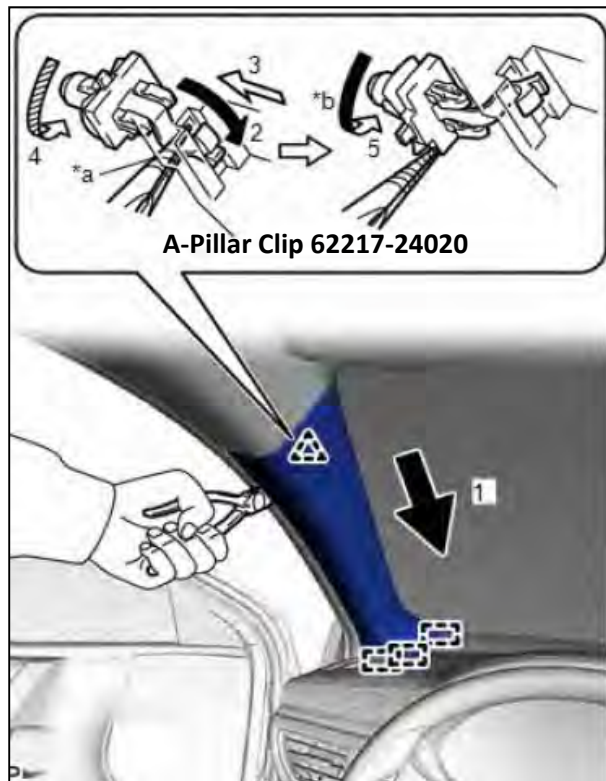

Figure 23
- a. Push the front A-Pillar garnish assembly LH in the direction indicated by the arrow (1) shown in the illustration to engage the 3 guides. Using needle-nose pliers with the tips wrapped with protective tape, bend the end of the front A-Pillar garnish clip in the direction indicated by the arrow (2) shown in the illustration. Push the front A-Pillar garnish assembly LH in the direction indicated by the arrow (3) shown in the illustration and insert it to the front A-Pillar garnish clip. Using needle-nose pliers with the tips wrapped with protective tape, rotate the front pillar garnish clip in the direction indicated by the arrow (4) shown in the illustration. Using needle-nose pliers with the tips wrapped with protective tape, push the front A-Pillar garnish clip in the direction indicated by the arrow (5) and rotate it to the position shown in the illustration. See figure 23.